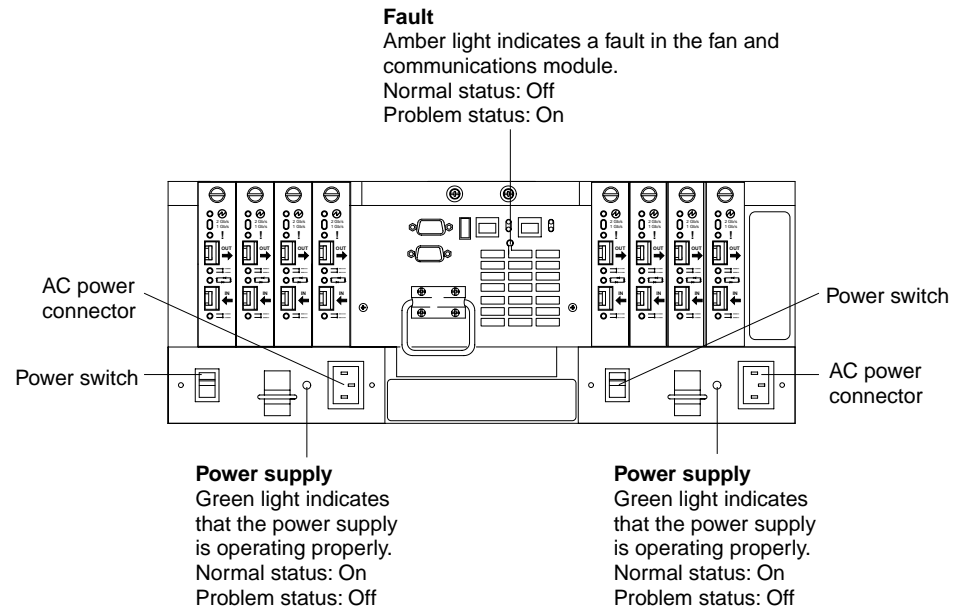

Figure 43. Power supply switch, ac power connectors, and indicator lights
1. Check the power supply indicator light on the back of the FAStT700 Storage Server, as shown in Figure 43 on page 46. Be sure that the green power indicator light on the failed power supply is off.
2. Turn off the power switch and unplug the power cord from the failed power supply (see Figure 43 on page 46).